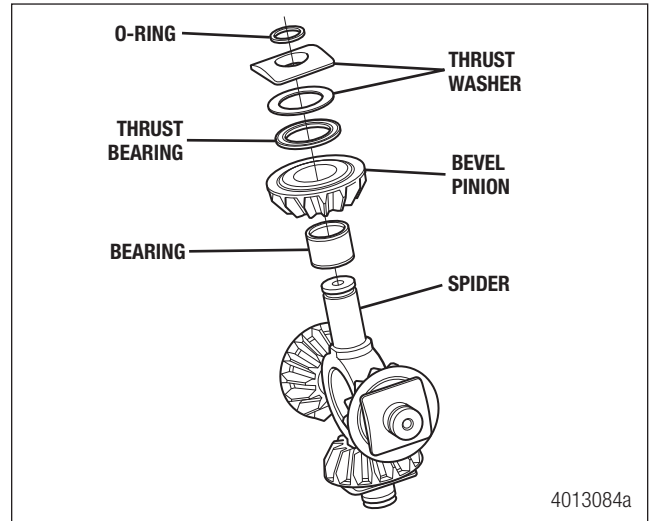

Figure 13.24
3. Apply a thin film of oil and install the four radial pinion bearings, bevel pinions, thrust bearings, round thrust washers, and square thrust washers onto the spider. Install the four o-rings onto the spider without oil. Figure 13.24.